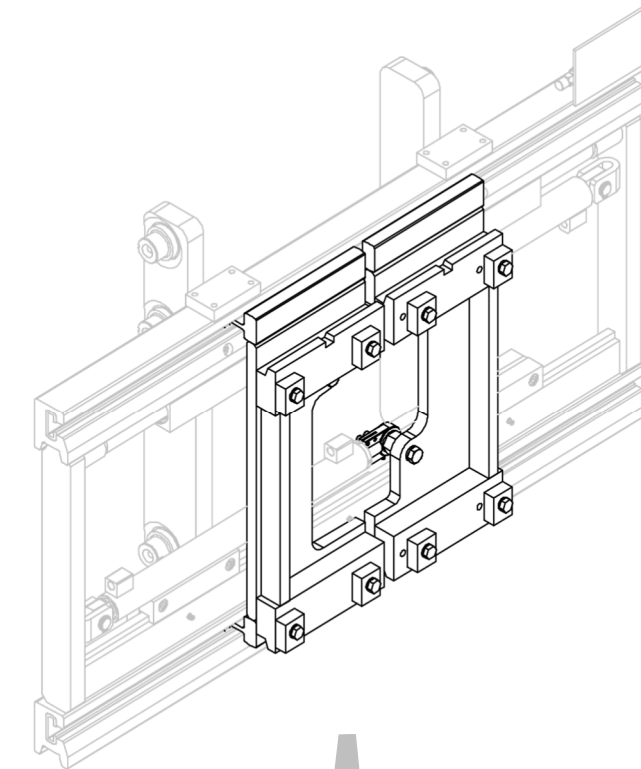

Figure 25
2. Remove the fork holders after removing the pins and screws that hold them to the cylinders (see Figure 25 and Figure 26).